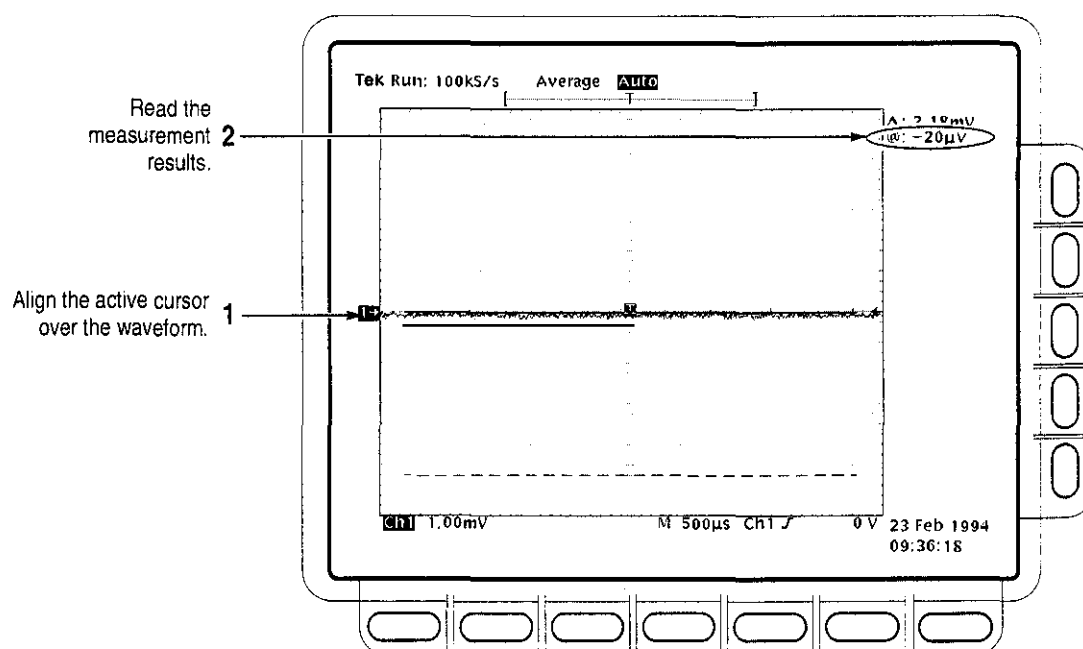

Figure 1-4: Measurement of DC Offset Accuracy at Zero Setting
- d. *Measure the test signal:* Align the active cursor over the waveform by rotating the general purpose knob. Ignore the other cursor. See Figure 1-4.
- e. Read the measurement results at the absolute (@:) cursor readout, not the delta (Δ:) readout on screen. That is, read the offset relative to the ground reference. See Figure 1-4.